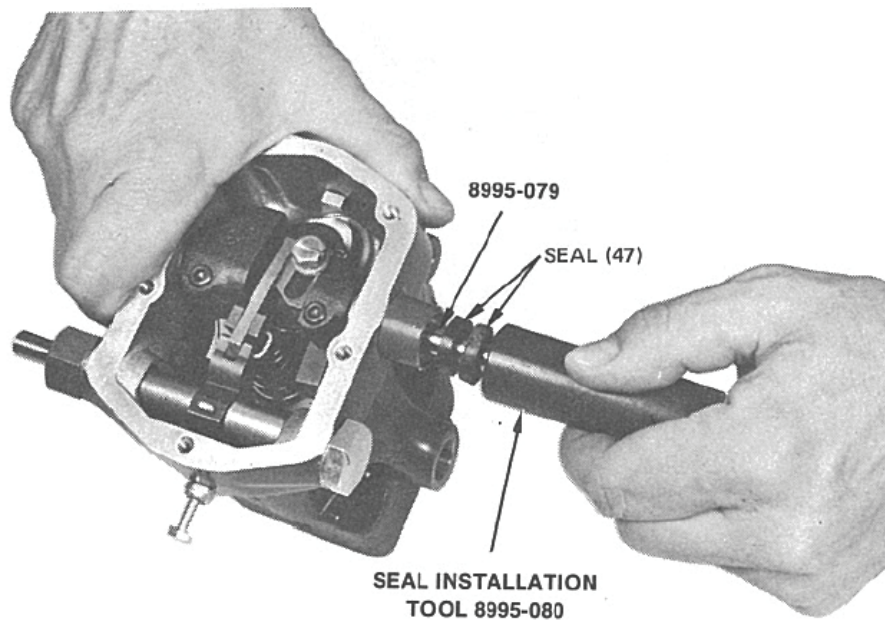

Figure 3-31. Seal Installation
25. Place tool 8995-079 on terminal shaft (58) and slide seals (47) onto tool with cups of seals facing each other. Press seals (47) into bushing (46) with seal installation tool until seated. See Figure 3-31.